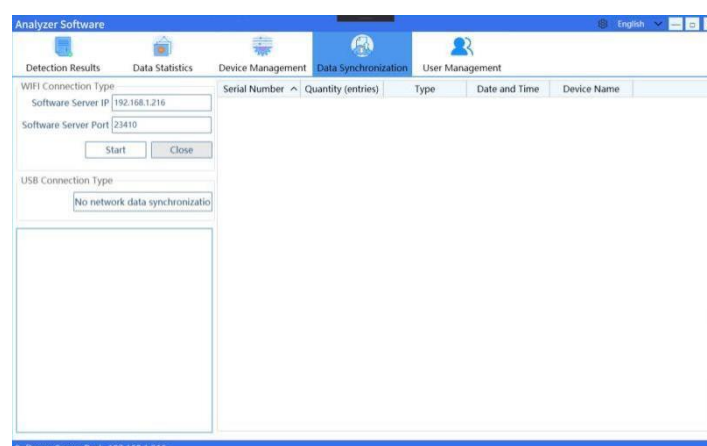

Figure 4.9-1 Computer Analysis Software Interface
(1) Install the analysis software "Analyzer Software.exe" onto the computer. After installation, click on "Data Synchronization". The interface is shown in Figure 4.9-1;